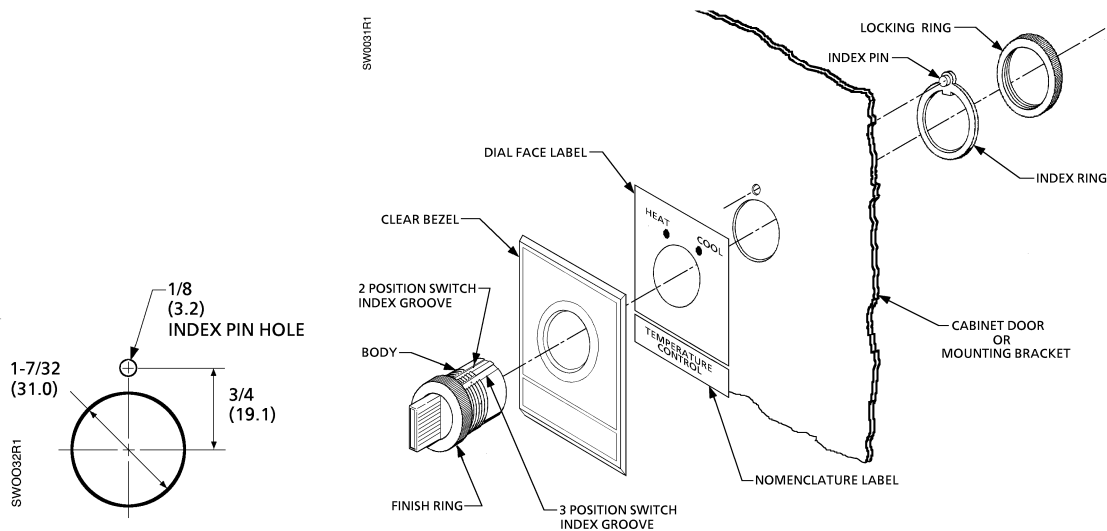

Figure 1. Mounting of the SW 786 Selector Switch.
- **For panel mounting:** 1-7/32 inch (31 mm) diameter hole in panel for switch body and 1/8-inch (3.2 mm) hole for index pin. See detail in *Figure 1*. For new installations request cabinet cut-out S-3.
- Place the index ring over the switch body with the index pin facing the back of the panel. Align the appropriate index groove on the switch body with the index tab on the index ring. See *Figure 1*.
- Place the nomenclature label face down in the clear plastic bezel. Align the bezel and labels with the opening in the mounting bracket. Insert the switch body from the front. See *Figure 1*.
- Place the index ring over the switch body with the index pin facing the back of the mounting bracket. Align the appropriate index groove on the switch body with the index tab on the index ring. See *Figure 1*.